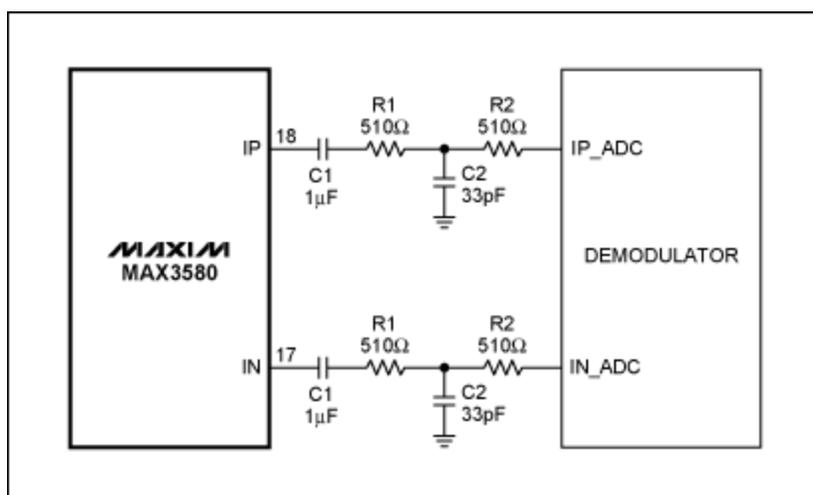

Figure 12. Recommended I channel interface (duplicate for Q channel).
**Figure 12** shows T-shaped RC filters added to each I/Q differential line. These RC filters reject high-order digital clock harmonics at RF frequencies that otherwise conduct from the demodulator through the I/Q interface to the MAX3580 RF input and subsequently downconvert. These harmonics are attenuated by the R2-C2 lowpass RC filter and R1 resistive pad.